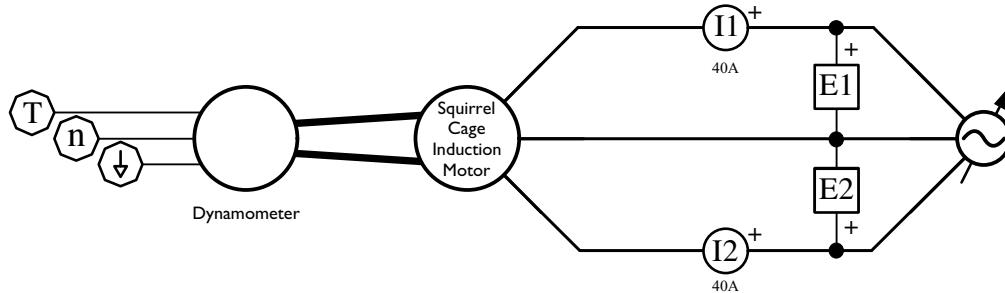

Figure 4.14: Three-Phase Squirrel Cage Induction Motor Circuit
6. Connect the squirrel cage motor to the variable ac power supply as shown in Figure 4.14. Use the high current (40 A) connection for the Ammeter. Connect the motor to the dynamometer with the timing belt, and connect the data cables for torque and speed to the the DAI.